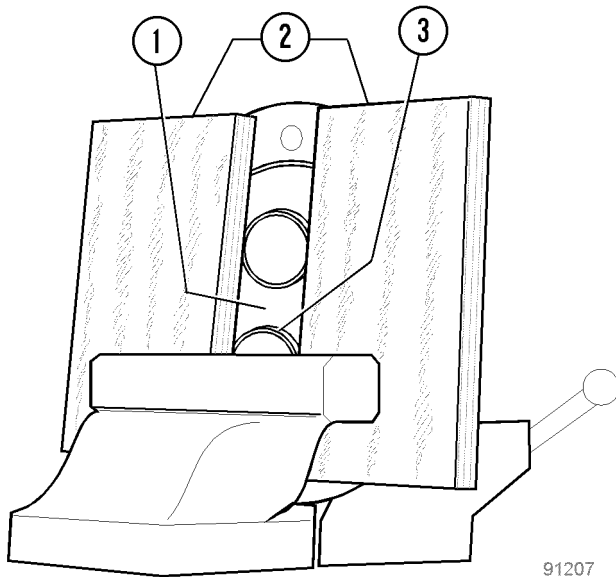

FIGURE 50-17. SHAFT SEAL INSTALLATION
2. Place wood blocks (2, Figure 50-17) flat against the fixed jaw of the vise. Place flange (1) against the wood blocks so that bearing projections (3) are between the wood blocks and clear of the vise jaw.